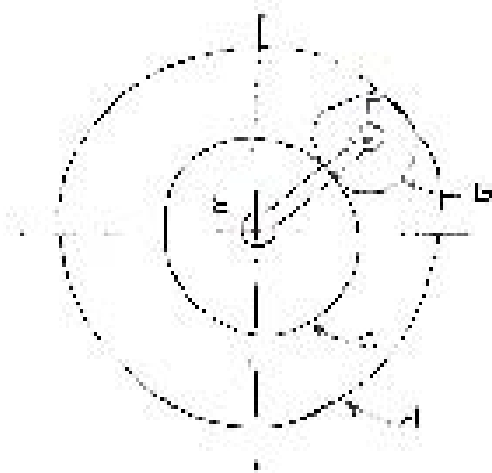

Fig. 2
- An epicyclic gear consists of three gears A, B and C as shown in Fig. 2. The gear A has 72 internal teeth and gear C has 32 external teeth. The gear B meshes with both A and C and is carried on an arm EF which rotates about the centre of A at 18 rpm. If the gear A is fixed, determine the speed of gears B and C.